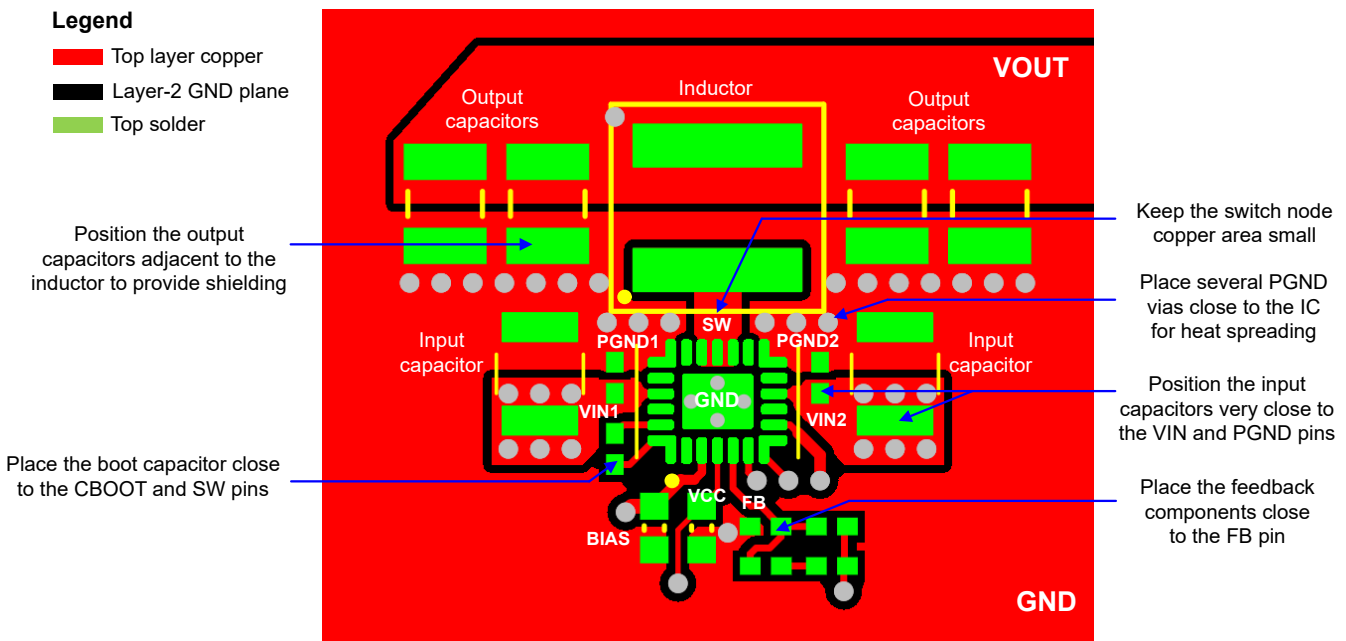

图 8-31. PCB Layout Example
The following list summarizes the essential guidelines for PCB layout and component placement to optimize DC/DC converter performance, including thermals and EMI signature. 図 8-31 shows a recommended layout of either the LM63440-Q1 or LM63460-Q1 with optimized placement and routing of the power-stage and small-signal components.
- Use low-ESR ceramic capacitors with X7R or X7S dielectric from VIN1 to PGND1 and VIN2 to PGND2. Place an 0402 capacitor close to each pin pair for high-frequency bypass as shown in 図 8-31. Use an adjacent 1206 or 1210 capacitor on each side for bulk capacitance.